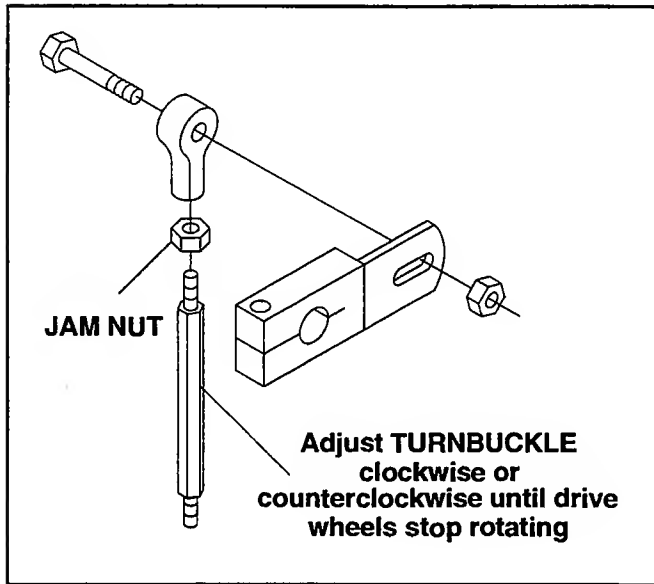

Figure 9
5. If drive wheel is rotating forward, adjust turnbuckle clockwise. If drive wheel is rotating rearward, adjust turnbuckle counterclockwise. Adjust until drive wheel stops turning. (See Figure 9)